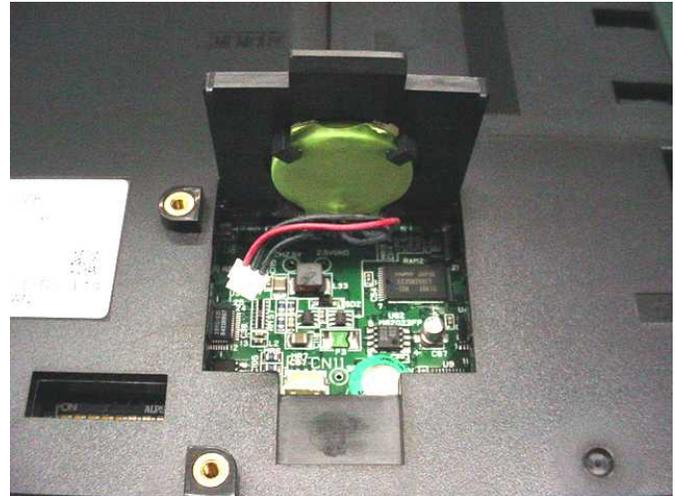

Figure 13.2
5. Open the battery access door by squeezing in on the latch and lifting up on the door (Fig. 13.2).